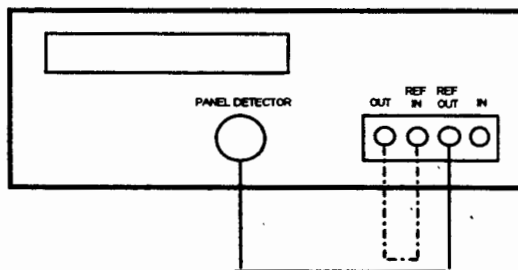

Figure 10: Fourth Step in the PDL Reference Measurement
7. Remove the connector end of the second jumper from the PC/PC adapter and connect it to the REF OUT port (figure 10).